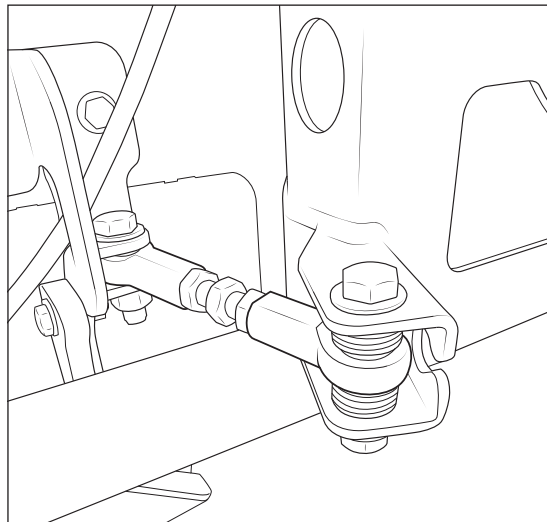

Figure 25
10. Install the Linkage to the Tire Carrier using the 1/2 x 2.5" bolt. This bolt **MUST** pass from the bottom upward with the nut on top. Use washers under the bolt head and nut. Use an even number of washers on both sides of the linkage (fig. 25). Tighten this nut and bolt to achieve a rattle free connection.